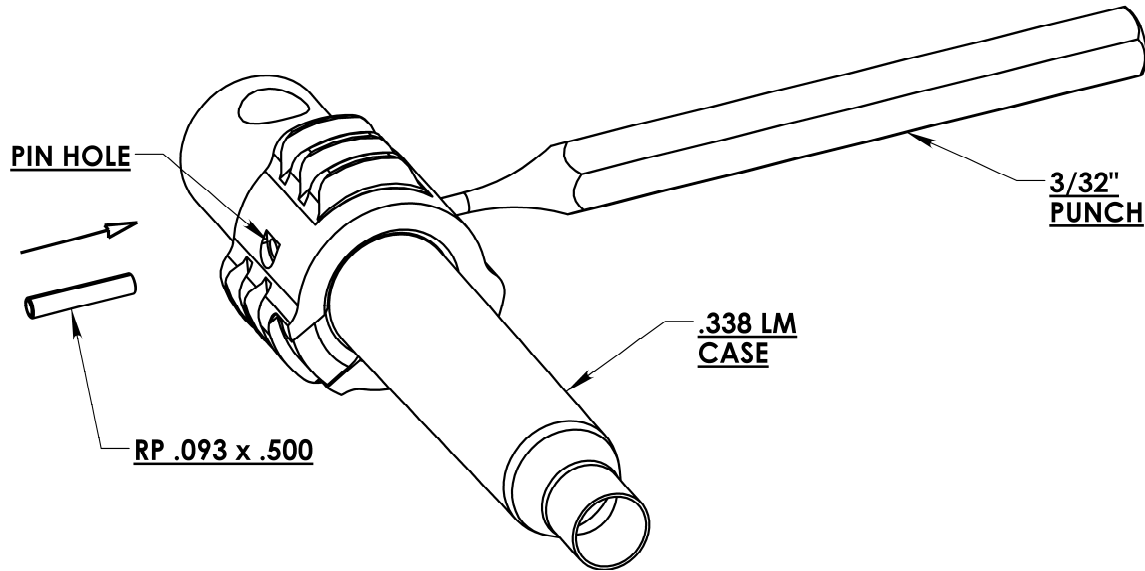

Figure 21.
3. Hook the rim of an empty case under the extractor. Use the opposite side of the case to force the ejector flush to the bolt face. Looking through the bolt's ejector pinhole, confirm that the ejector's pin slot is oriented so that the ejector pinhole is clear. While depressing the ejector with a cartridge case, insert a punch through one side of the ejector pinhole leaving room for the ejector pin to be started from the opposite side. The punch holds the ejector in place until the ejector pin has been started from the opposite side. With a 3/32 punch, finish driving the ejector pin until it is flush with the bolt's ejector pin recess. (Figure 21.)